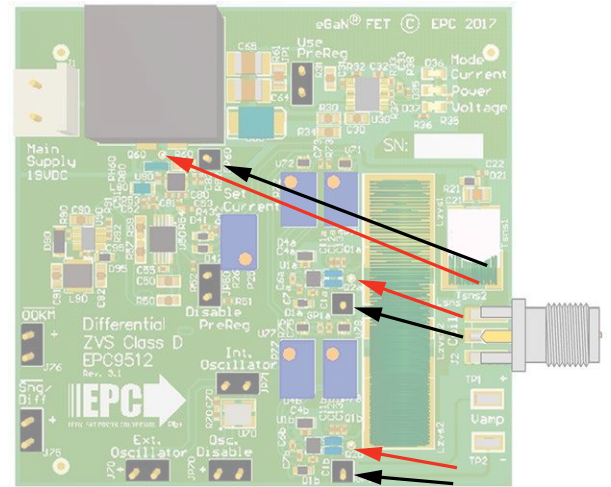

Figure 11: Measurement locations of switch node waveforms on EPC9512 amplifier board.
1. When measuring the high frequency content switch-node (Source Coil Voltage), care must be taken to avoid long ground leads. An oscilloscope probe connection (preferred method) has been built into the board to simplify the measurement of the Source Coil Voltage (shown in figure 11).